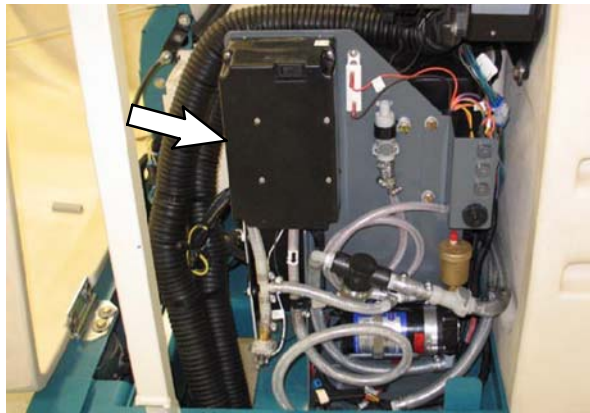

FIG. 21
30. Set the *ec-H2O* assembly into the machine and tighten the three M6 X 1.25 SEMS screws installed in the previous step. Refer to Fig. 21.